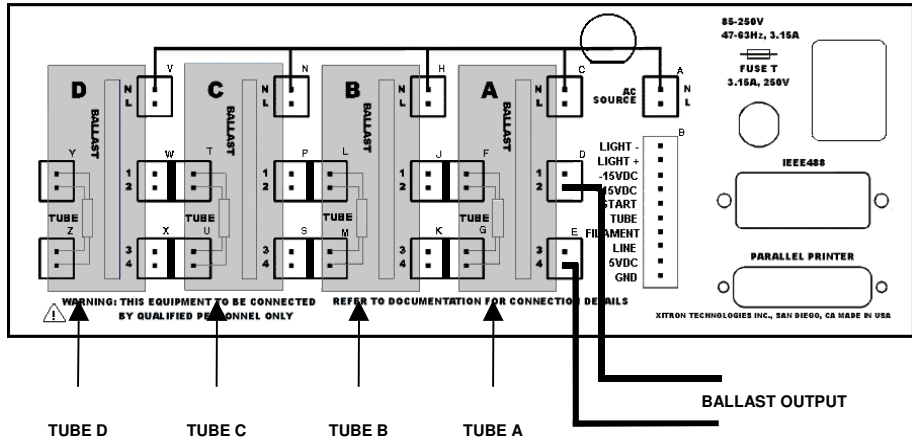

Figure 14. Two-pin Load, Two-pin Ballast Output Connections
- Wire the output from the ballast to two (or more) sections of the 2574R connections in parallel as shown in Figure 14.